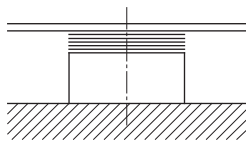
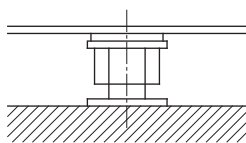

Fig. 5: Shims on the base surface
Fig. 6: Levelling screws on the base surface
- Place shims (approx. 20–25 mm thick) on every screw hole on the base surface (see fig. 5). Alternatively, levelling screws can also be used (see fig. 6).